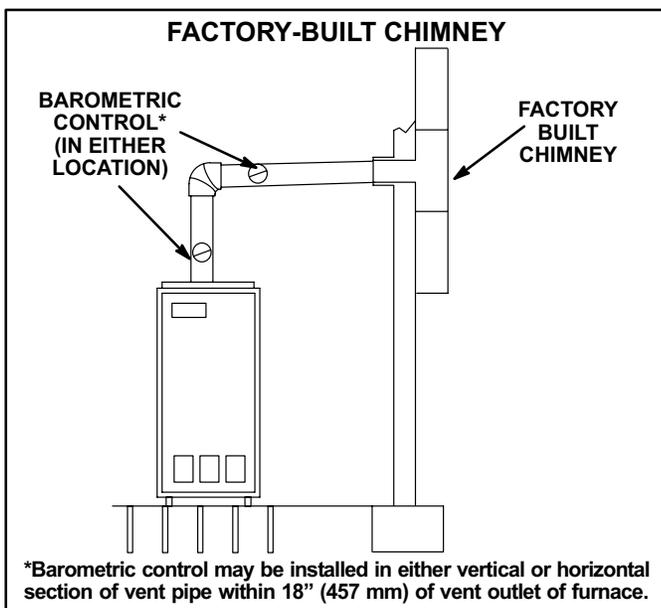

FIGURE 9
- 15- All vent pipe run through unconditioned areas or outside shall be constructed of factory built chimney sections. See figure 9.